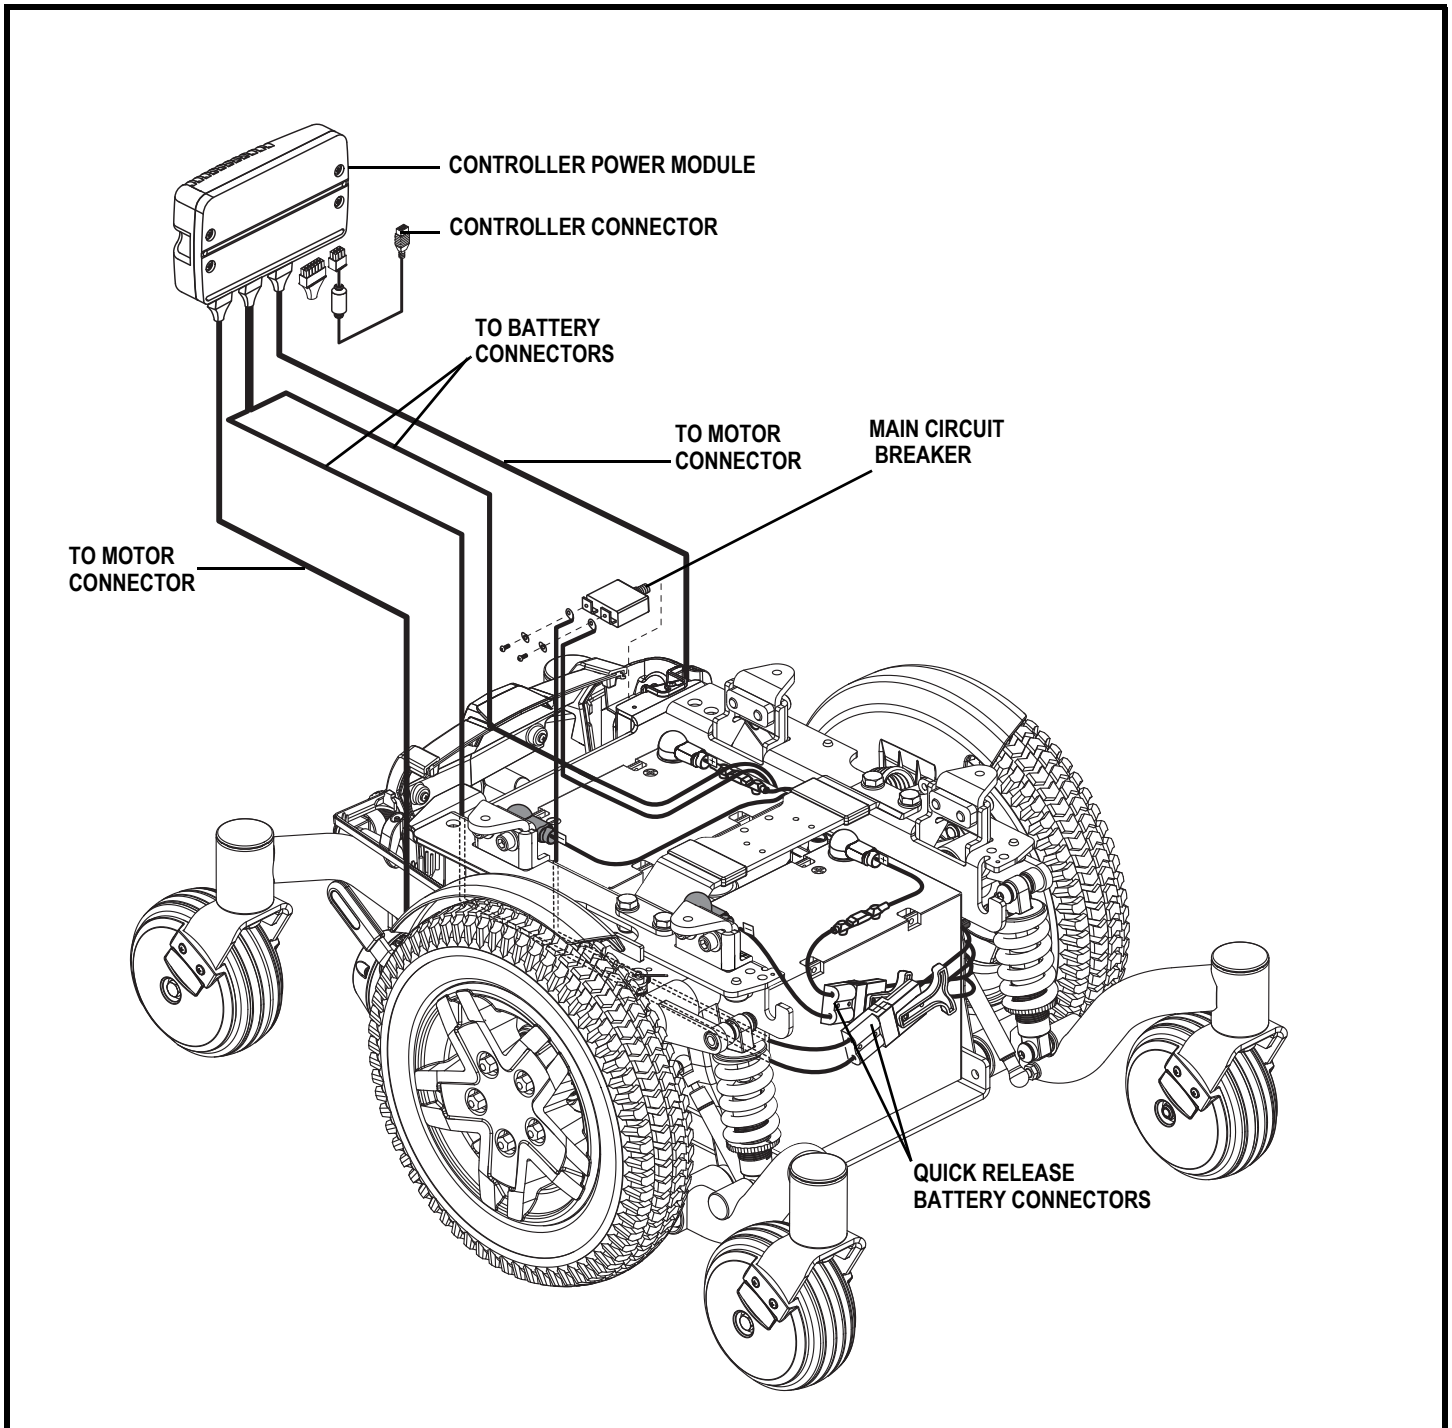

Figure 3. Q6 Edge Series Electrical Components
The electrical components consist of the controller assembly, the batteries, and the motors. The batteries, motors, and controller power module (if equipped) are located on the power base assembly. The controller is located on the seat assembly. Connectivity between the controller and the motors, batteries, and the battery charger is provided by one or more wiring harnesses. **See figure 3.**
5. Plug the controller connector into the rear of the power base. See figure 3.
3. Unplug the controller connector(s) from the power base. See figure 3.